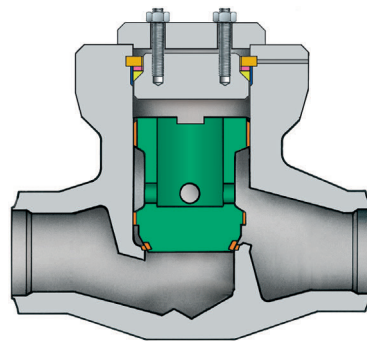

Figure 19
**3. Piston Check** (Figure 19). Pressure seal piston check valves are